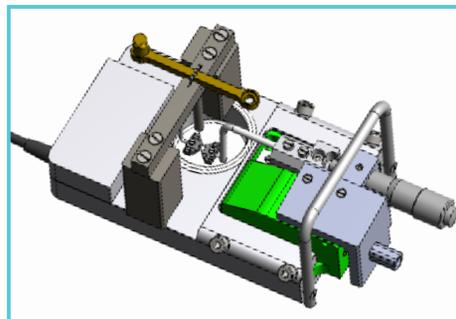

Figure 4.6 - Weight calibration kit shown in place on a single myograph chamber
2. Set up the calibration kit (bridge and balance) on one of the myograph chambers as illustrated in Figure 4.6. Also place the weight on one of the chambers. Turn the heat on as